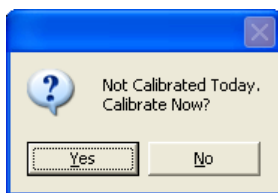
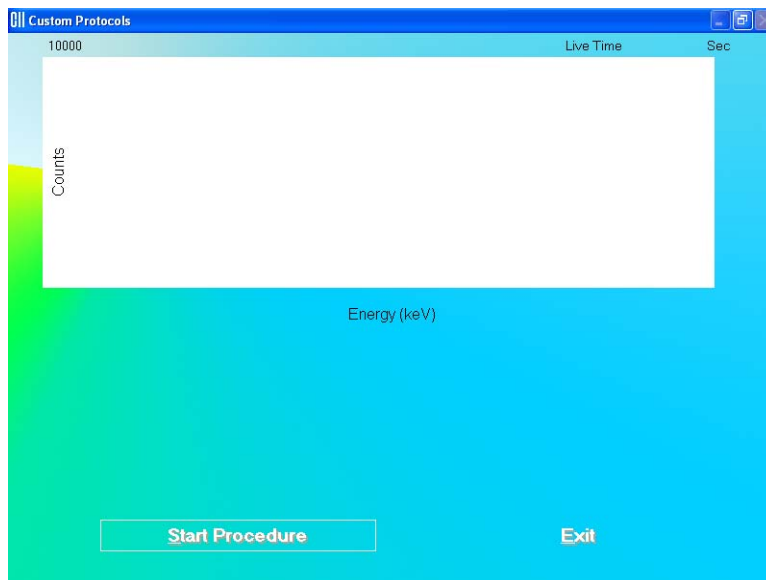

Figure 16-12
Figure 16-13
**Note:** *If calibration has not been done that day, you will be prompted with the screen as in Figure 16-12. If you calibrate now, the screen will return after calibration to the screen shown in Figure 16-13.*